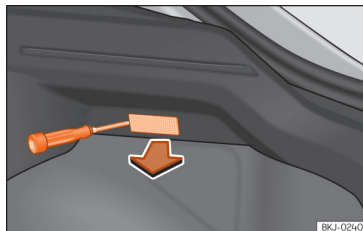

Fig. 166 Boot light.
- Extract the bulb by pressing on its inside edge using the flat side of a screwdriver »» **Fig. 166**.